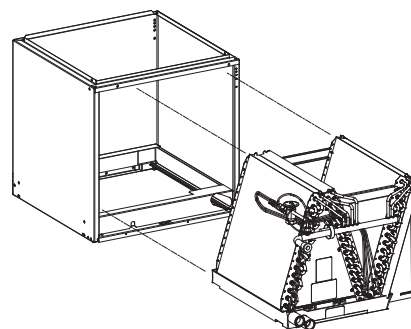

Fig. 7 - Uncased N-Coil Installation
5. Slide new N-coil on top of **collar**. See Fig. 7 & 8.